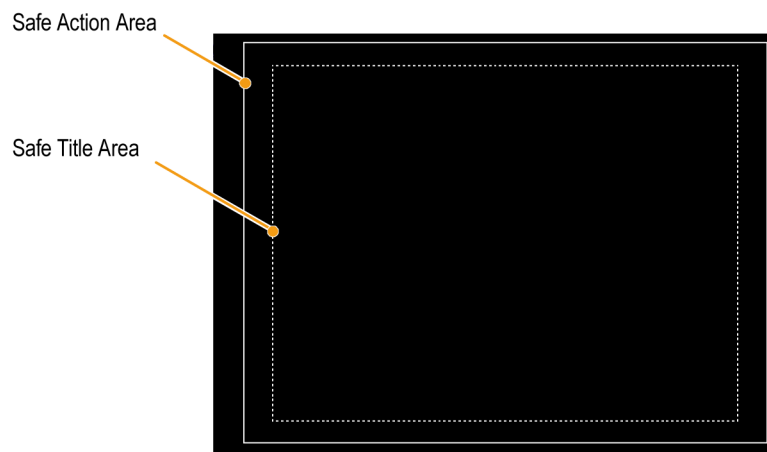

Figure 62: Safe Action and Safe Title areas
- The Safe Action Area shows the maximum image area within which all significant action should be contained; the Safe Title Area shows the maximum image area within which all significant titles should be contained. (See Figure 62.)